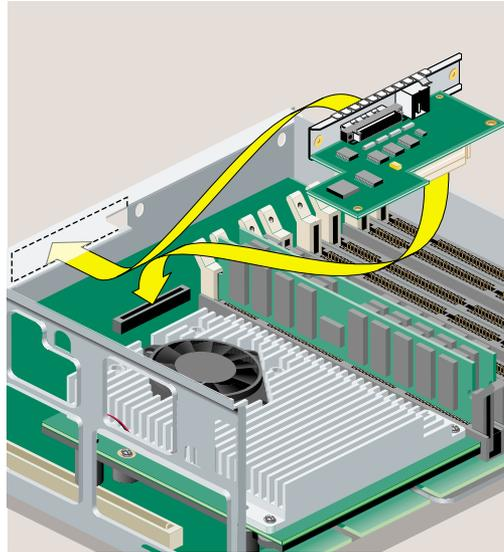
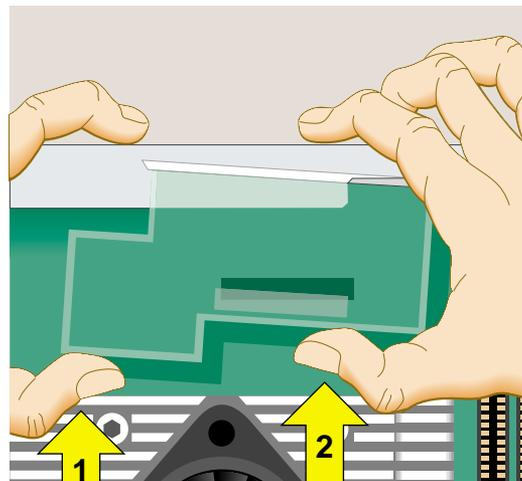
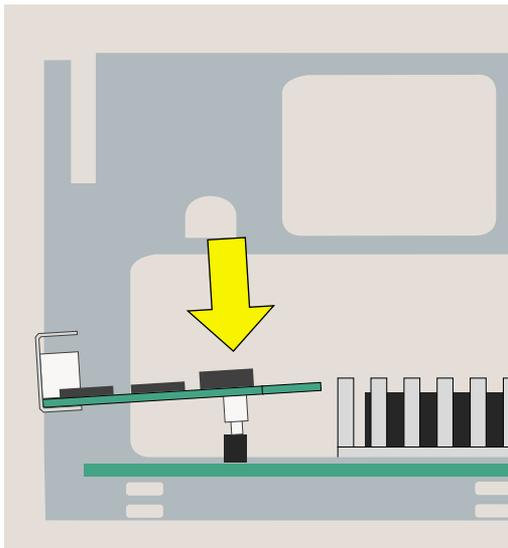

Figure 2-37 Positioning the Option Board
Figure 2-38 Aligning the Option Board
Figure 2-39 Seating the Option Board Viewed From the Side
3. Maneuver the board until its I/O connector is opposite the open slot in the rear of the chassis and it is parallel to the system board (Figure 2-37). You may find this installation difficult, especially on an R10000 workstation, because there is not a lot of space in which to work. Figure 2-37, Figure 2-38 and Figure 2-39 show an R10000 O2.
4. Push the left side of the board toward the rear and then the right side, until the connector underneath is aligned over the socket on the system board. Remember to keep the board parallel to the system board as you align it (Figure 2-38).
5. Push the board down into the socket firmly until it clicks and the connectors are completely seated. Look from the side as shown in Figure 2-39.